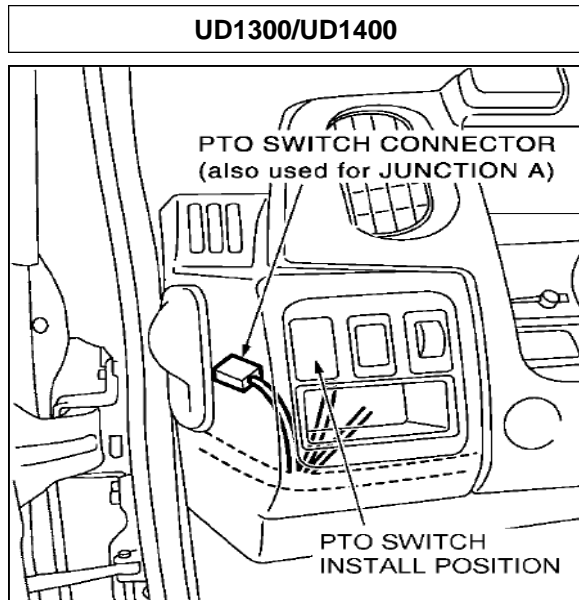

FIG. 1
1. Install the PTO switch on the left side dash panel. The PTO switch connector is taped to the instrument harness wiring loom. See Figures 1 or 2.